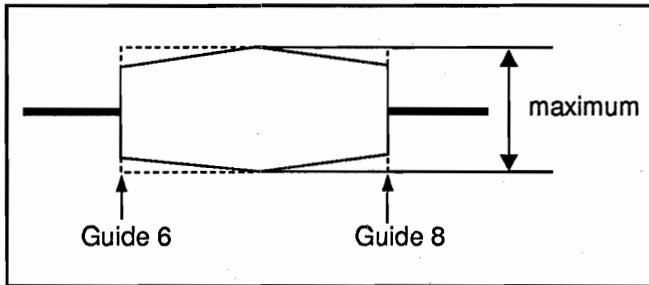

Fig. 1-3
- 1) Adjust Guide 6 and 8 for the flattest waveform. (Fig. 1-3)